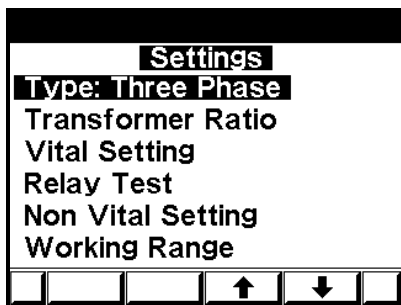

Figure 4.2 **Settings**.
2. The **Settings** screen appears. (Please see figure 4.2).